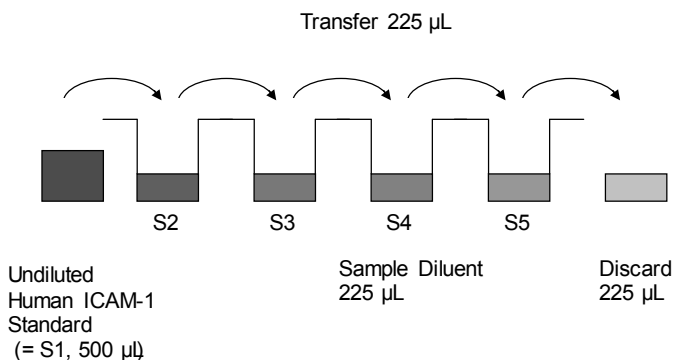

Fig. 5 Dilute standards - tubes
5. Repeat serial dilutions 2 more times thus creating the points of the standard curve (see Figure 5).